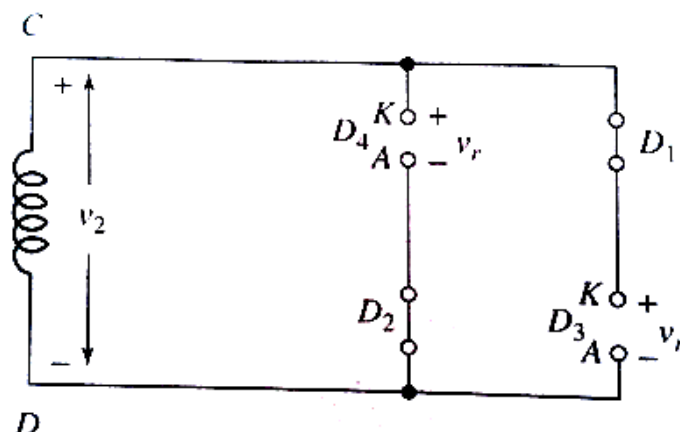

Fig.1.23: Equivalent circuit to find Peak Inverse Voltage
- Applying KVL to the circuit in Fig.1.23 we get,  $v_2 - v_r = 0$  where  $v_2 = V_m \sin \omega t$  hence  $v_r = v_2 = V_m \sin \omega t$  **PIV =  $v_{r \max} = V_m$  when  $\sin \omega t = 1$**